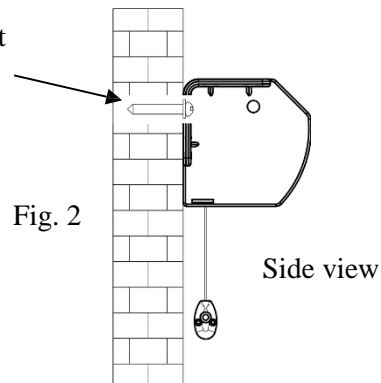

Fig. 2
2. Insert wall anchors into the two drilled holes on the wall and then insert the screws into the anchors leaving the screw head to stick out of the anchor by at least a 1/8" (see Fig. 2).